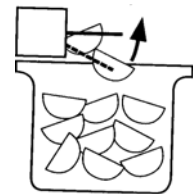

FIGURE 2
- THE ICE MAKING FUNCTION MAY BE TEMPORARILY STOPPED BY RAISING THE METAL ARM TO AN UPRIGHT POSITION (SEE FIGURE 2)